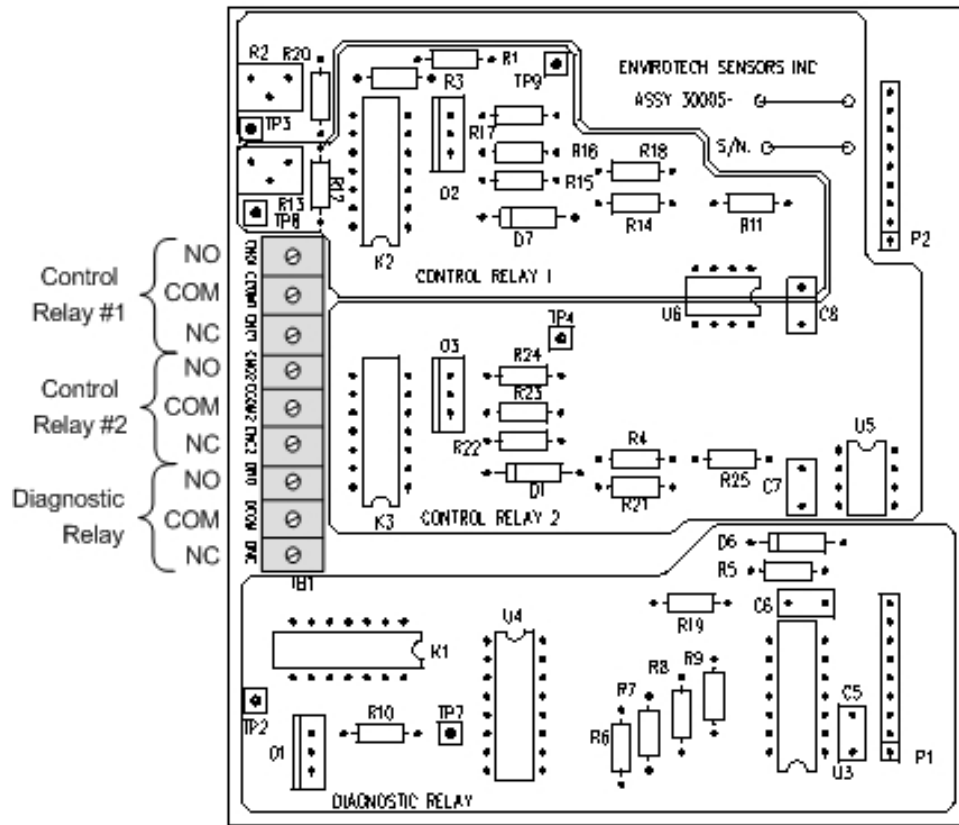

Figure 2.3.3-1 3-Relay Output Signal Connections
3. For the control relay #1 option (Sensor 73000xxC), strip ~6 mm (1/4") of insulation from each of the conductors and connect them to TB1 using the information in Table 2.3.3-1 and Figure 2.3.3-1. Note that the terminals marked with a "C" prefix refer to the control relay output.
4. For the control relay #2 option (Sensor 73000xxE), strip ~6 mm (1/4") of insulation from each of the conductors and connect them to TB1 using the information in Table 2.3.3-2 and Figure 2.3.3-1. Note that the terminals marked with a "C" prefix refer to the control relay output.
5. For the diagnostic relay option (Sensor 73000xxD), strip ~6 mm (1/4") of insulation from each of the conductors and connect them to TB1 using the information in Table 2.3.3-3 and Figure 2.3.3-1. Note that the terminals marked with a "D" prefix refer to the diagnostic relay output.